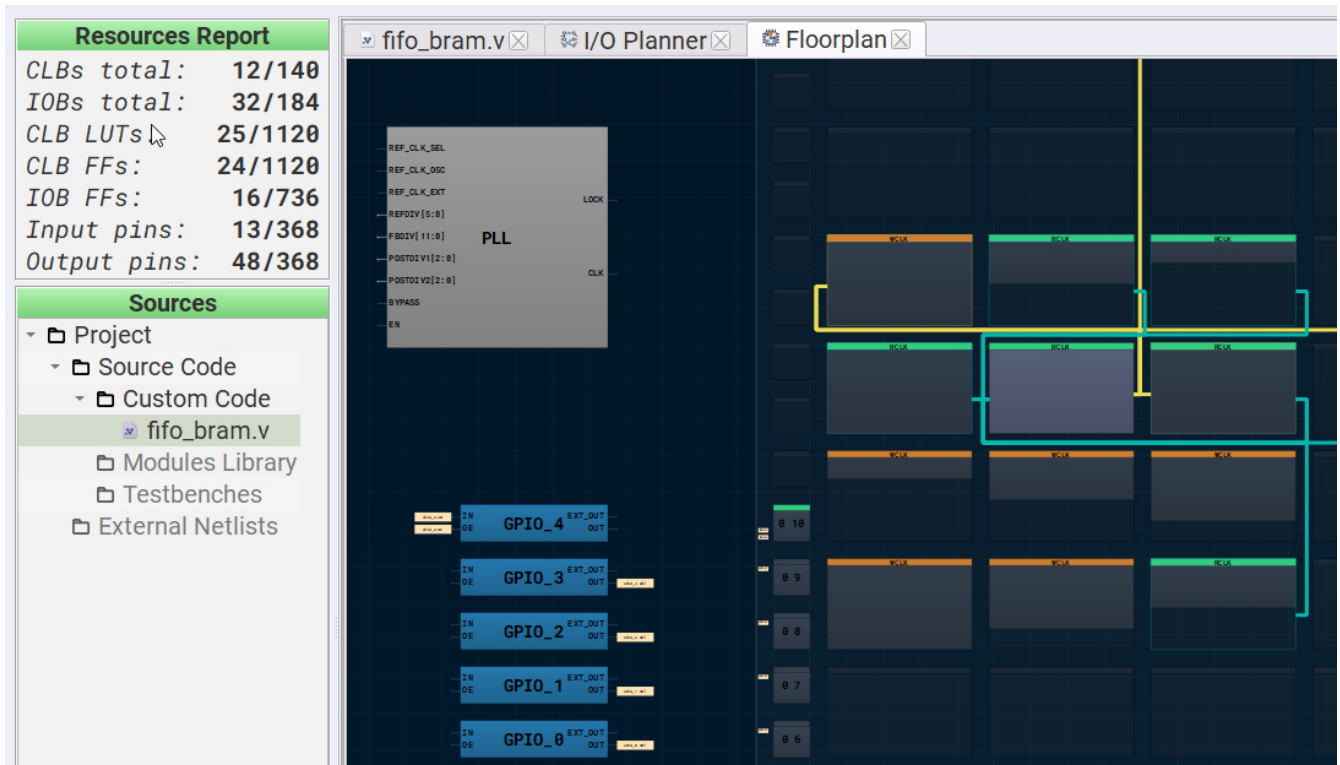

Figure 4 : Floorplan
From the below figure 4, we can see a part of the floorplan for this application note. Also, on the left corner of the figure we can see a mini resource needed list.
- 6) Now click on the Floorplan tab and see the CLB utilization. Press the Ctrl and the mouse wheel to zoom-in. (Figure 4). Confirm that the IOs selected in the IO Planner (Figure 6) are shown in the floorplan. The IO Planner has been set in such a way that the board uses an external clock instead of the OSC clock on-board also that we use only BRAM\_0 for this application and disable the other BRAMs on board.